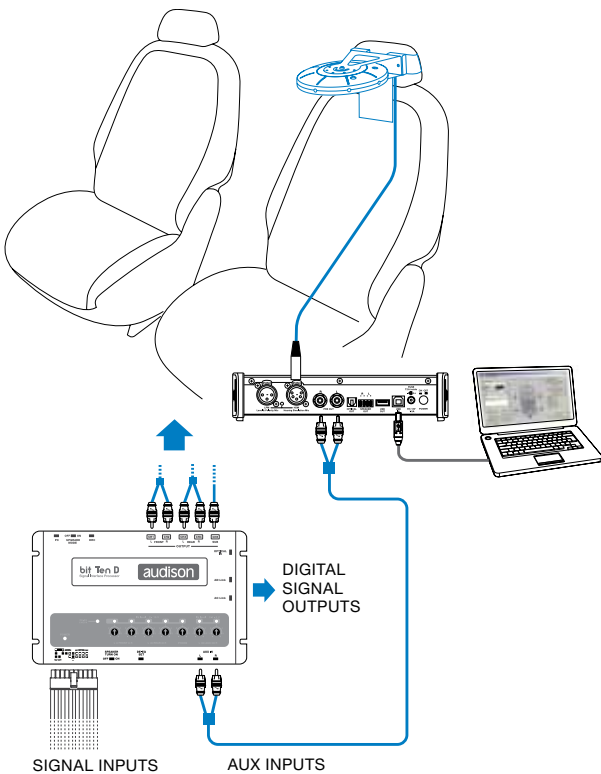

Fig 1.
1. Connect the bit Tune to the Audison bit processor, as shown in fig. 1 or 2 (see points **A** and **B**).